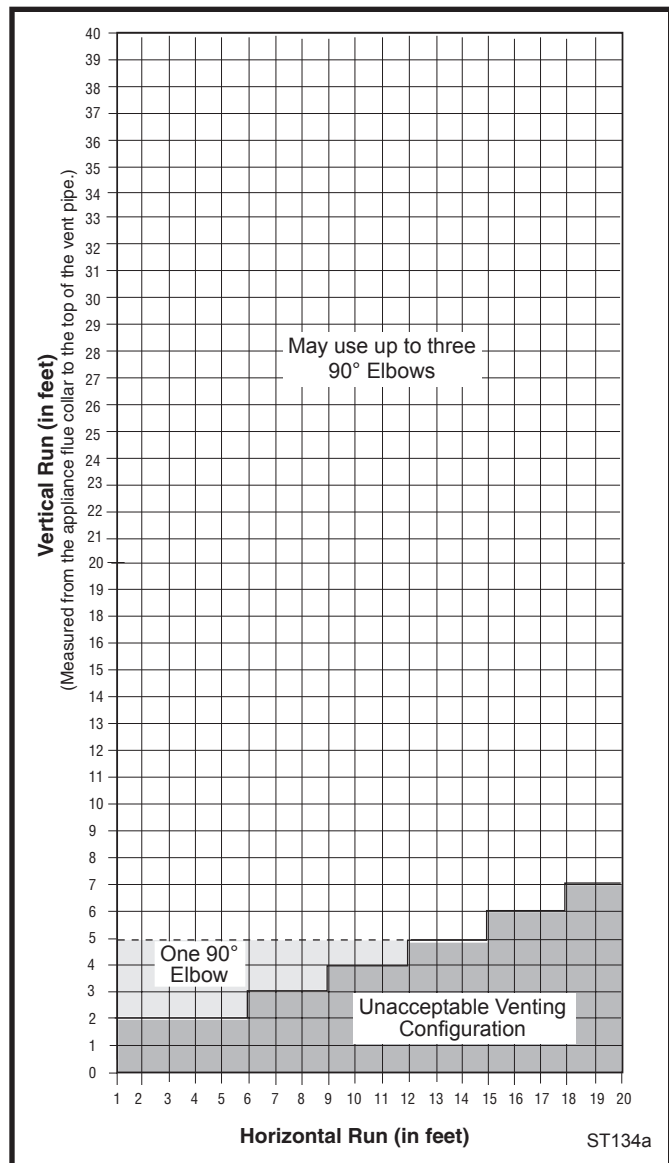

Fig. 7 Horizontal vent termination window.
The vent must rise vertically a minimum of 24" (610mm) off the top of the unit, before the first elbow. The horizontal run may extend up to 20' (6m) and include a vertical rise of up to 40" (12m). (Fig. 7) Horizontal termination must also meet the criteria shown in Figures 9 through 11.
- Approved vent systems must terminate above and including the heavy line in Figure 7.